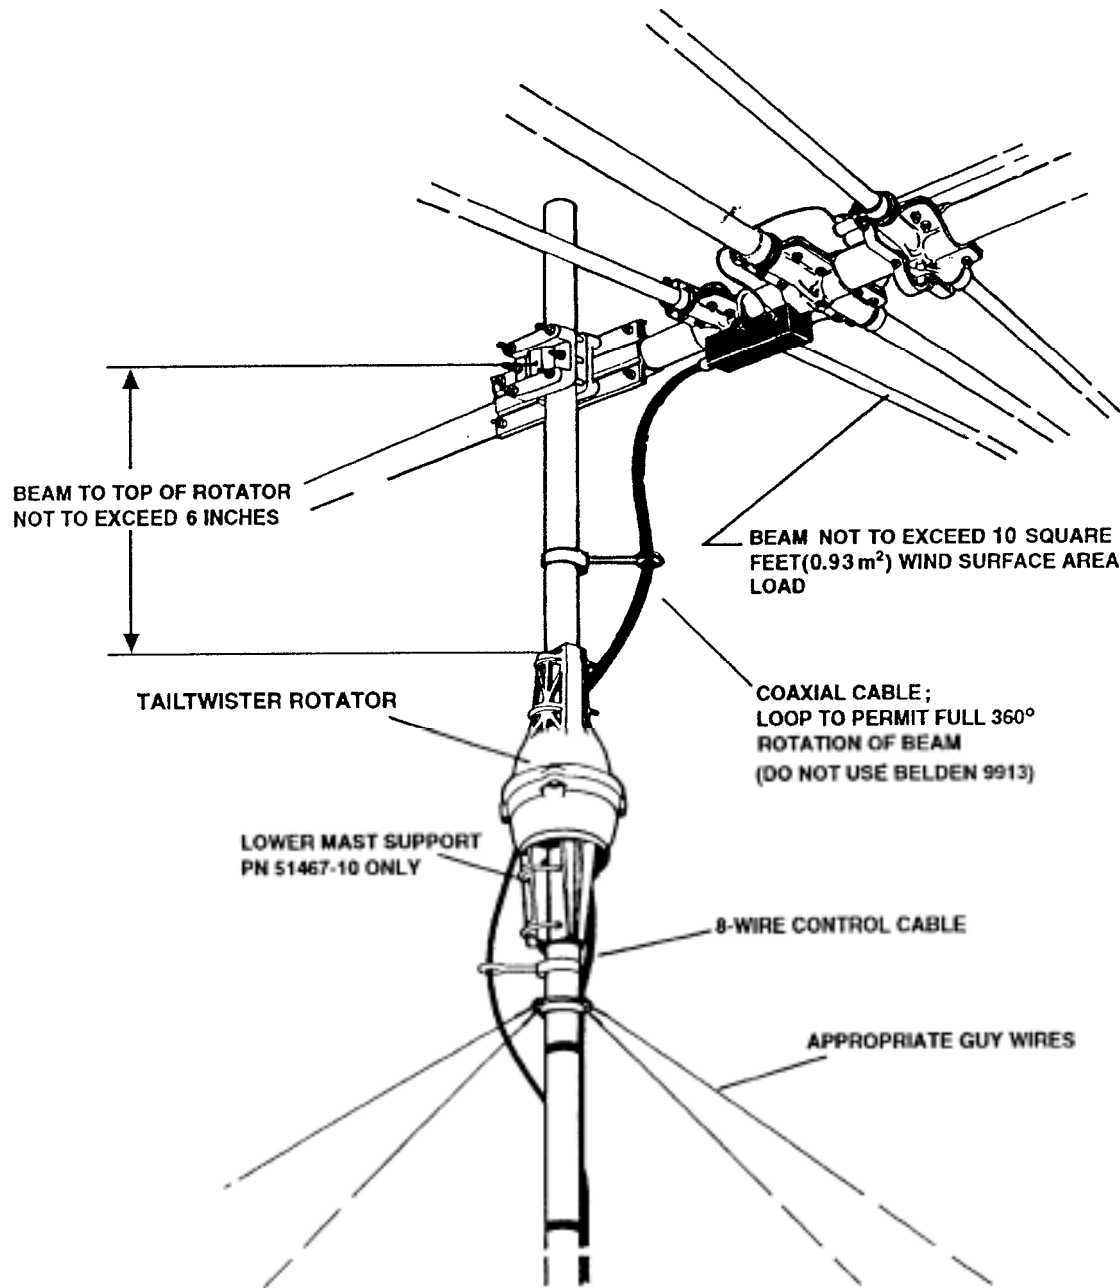

Figure 5
The optional heavy-duty lower mast support kit must be used if you elect to use a mast mount (see Figures 5 and 9). The part number for this kit is 51467 10. When using the lower mast support, the antenna size is restricted to 10 square feet of wind area. The "inside tower mount" configuration is recommended (see Figure 3).
The rotator is mounted to a vertical mast, see Figures 5 and 9, by means of four (4) bolts and the optional lower mast support, PIN 5146710. Use the following procedure:
1. Attach the rotator to the lower mast support by means of four (4) bolts, nuts and lockwashers. Tighten the four (4) bolts. Attach this assembly to the top of the mast as shown in Figure 5. Tighten all bolts securely.